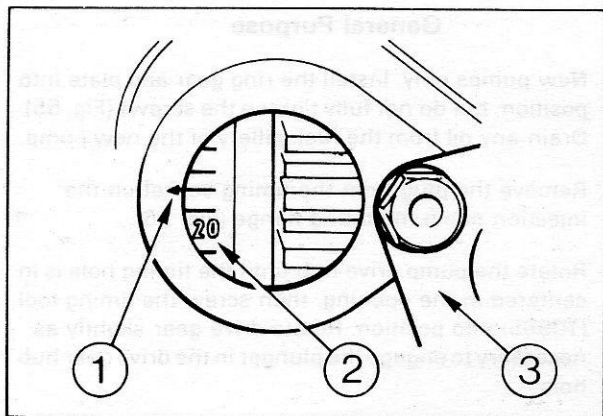

Fig. 54 - Engine Timing
82. Remove the timing access cover from the flywheel housing and turn the engine in the normal direction of rotation until the specified number of degrees before TDC on No. 1 cylinder is indicated against the timing mark on the edge of the opening (Fig. 54). No. 1 cylinder must be on the compression stroke.